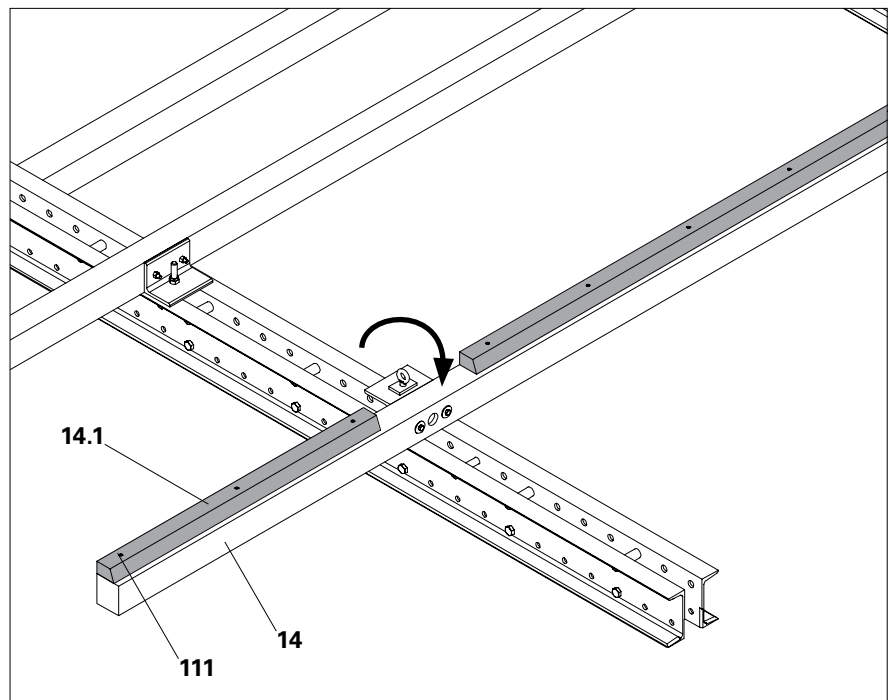

Fig. C2.05
1. Position the pre-assembled Enclosure Beam (14), turned by half a turn, on the Climbing Rails.
3. Secure the support (14.1) with screws 6 x 120 (111) at a distance of approx. 60 cm to the Enclosure Beam (14). (Fig. C2.05)